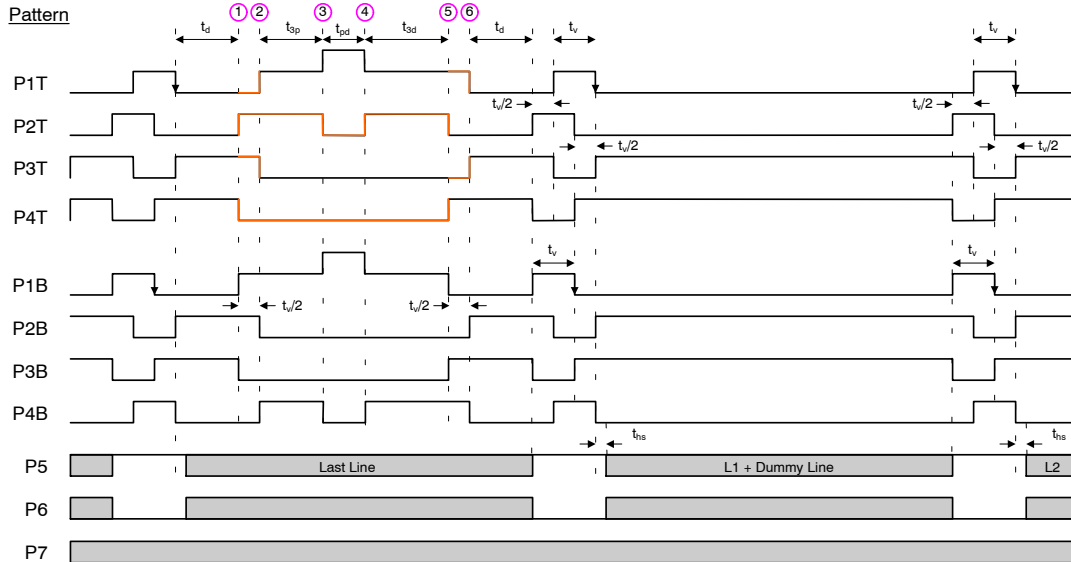

Figure 20. Photodiode Transfer Timing
1. Refer to timing diagrams as shown in Figures 20, 21, 22, 23 and 24.
The timing sequence for the clocked device pins may be represented as one of seven patterns (P1–P7) as shown in the table below. The patterns are defined in Figure 20 and